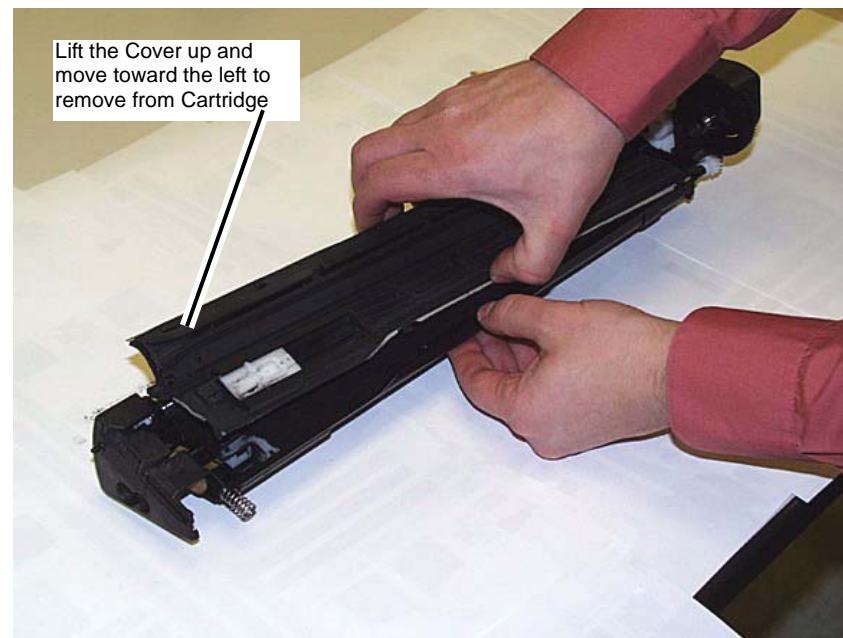

Figure 3 Removing the Developer Housing Cover
5. Remove the Developer Housing Cover. (Figure 3)